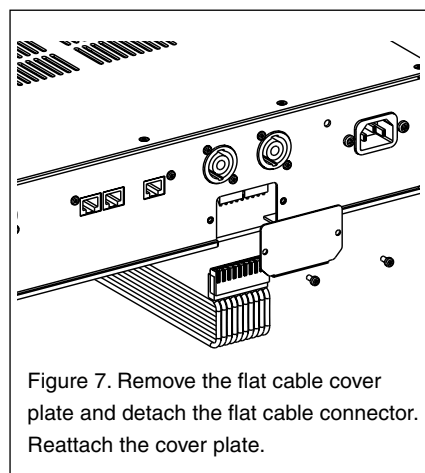

Figure 7. Remove the flat cable cover plate and detach the flat cable connector. Reattach the cover plate.
6. Remove the cover of the flat cable connector (see figure 7)